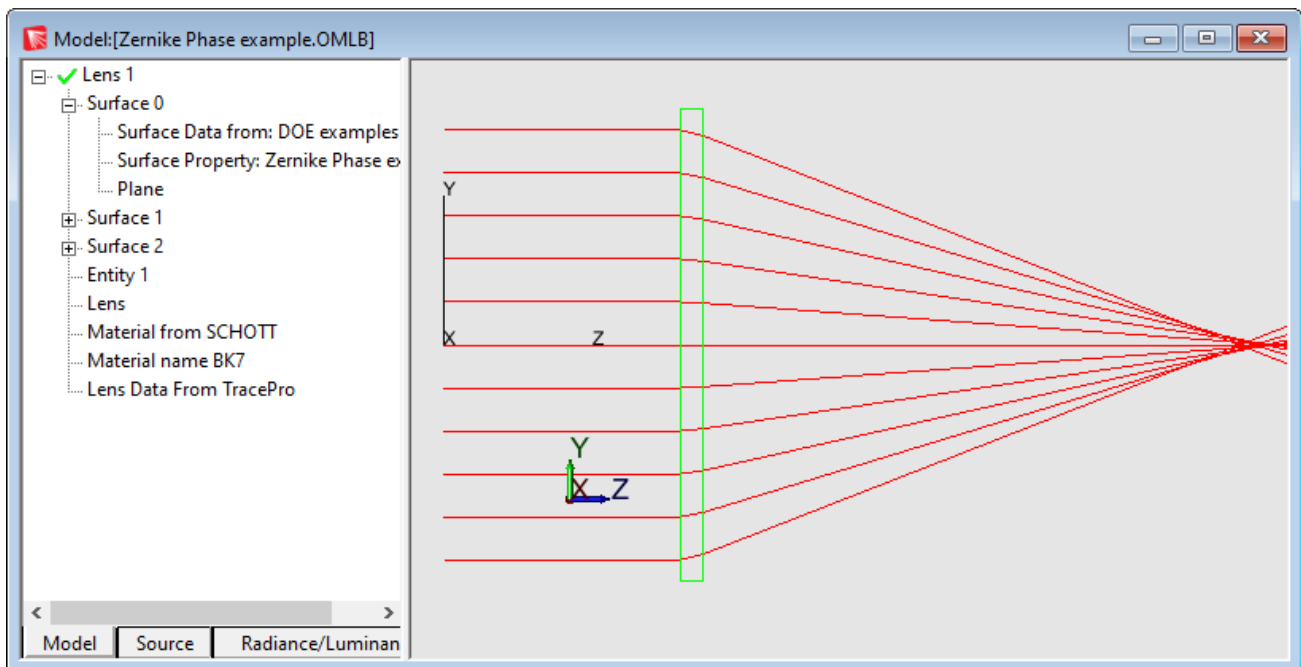

Figure 16. Rays traced through the Lens Element with example Zernike Phase surface property applied.
11. Trace rays and observe that the diffracted rays converge behind the Lens Element as shown in Figure 16.